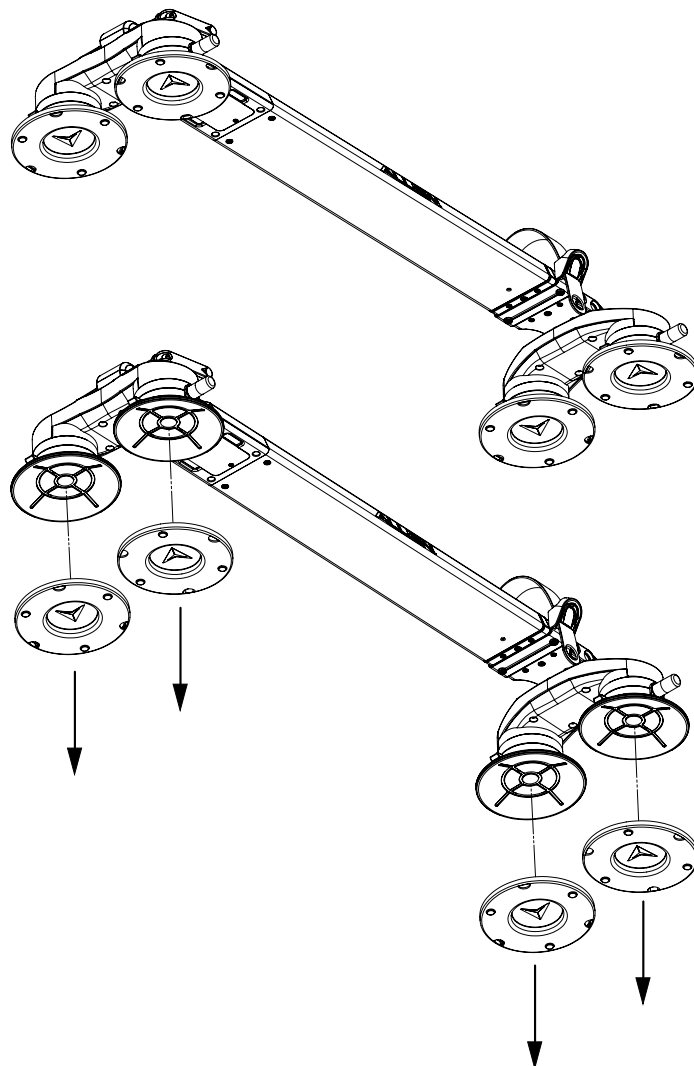

FIGURE 17
**STEP 9:** Test mount the Bike to the Rack. With the bike's front tire removed, put the Thru Axle through the Adapters and Cross Tube and secure, as shown in **Figure 17**. Ensure the Thru Axle is tight to the rack and free of any movement.
**STEP 2:** Remove the Red Suction Cup Covers from each of the suction cups as shown in **Figure 17**. Ensure that the Suction cups are clean and free from debris.